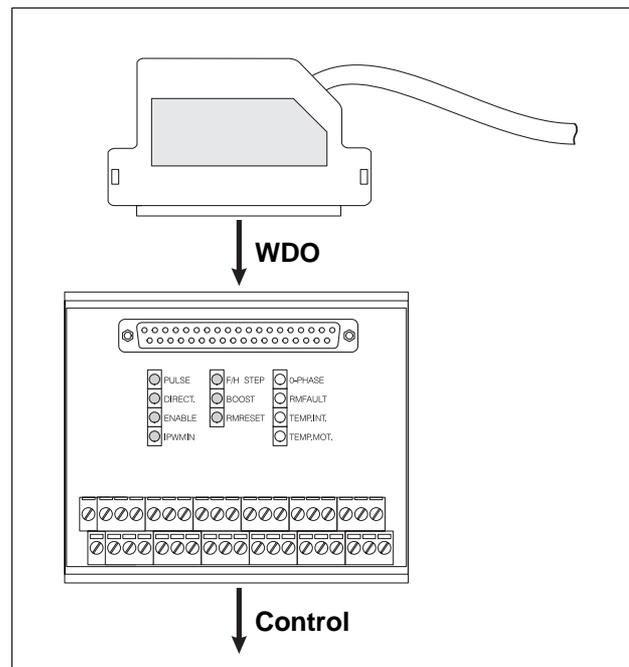

Figure 6-4 Initial Operation of Terminal Adapter D732
2. Connect Terminal Adapter D 732 with cable to WDO equipment, see figure 6-4.